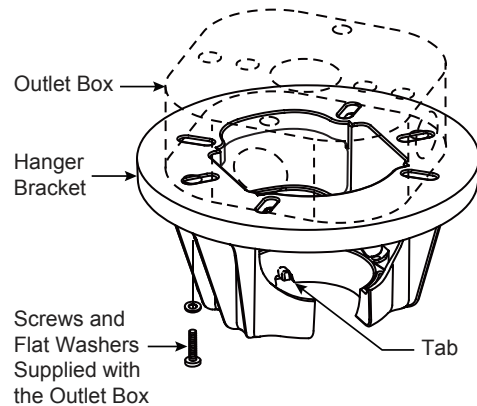
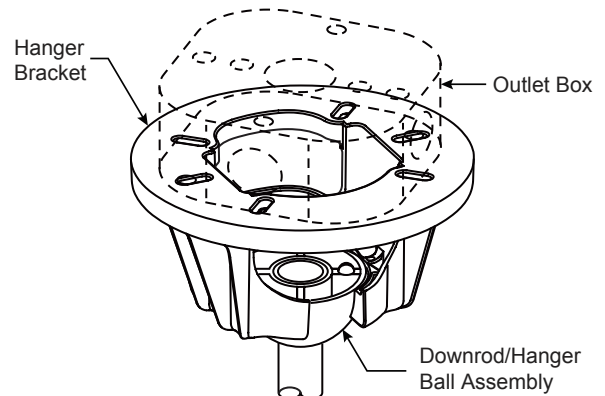

Figure 3
Figure 4
- 3. Loosen the two set screws and locking nuts in the downrod support of the motor assembly. Route the wires through the downrod. (Figure 3)
- 4. Slide downrod into the downrod support on top of the motor. Install the clevis pin by aligning the holes in the downrod support with holes in the downrod. Secure clevis pin with hairpin clip. Install and tighten the two set screws with nuts in the downrod support. Securely tighten the set screws with screwdriver then fully tighten the nuts by hex wrench. (Figure 4)
1. Securely attach the hanger bracket to the outlet box using the outlet box screws and washers supplied with the outlet box. (Figure 3)
NOTE: Outlet box screws pass through slotted holes of the hanger bracket. (Figure 3)
3. Carefully lift the fan and seat the downrod/hanger ball assembly onto the hanger bracket that was just attached to the outlet box. (Figure 4) Be sure the groove in the ball is lined up with tab on the hanger bracket. (Figure 3)
2. Slide the receiver into the hanger bracket before wiring as shown in figure 3.
3. Connect wires using connectors as shown in Figure 4. Connect the 2 pin connectors from the motor assembly to the 2 pin connectors from receiver, connect the 3 pin connectors from the motor assembly to the 3 pin connectors from receiver.
4. **If installing the light kit, skip this step.** Assemble the light kit wire cover to the switch housing assembly using the removed screws in step 3 and secure all three screws. (Figure 4)
- 4. If you need to replace the batteries. Remove the battery cover from remote control by screwdriver and retain the screw for later. (Figure 4)